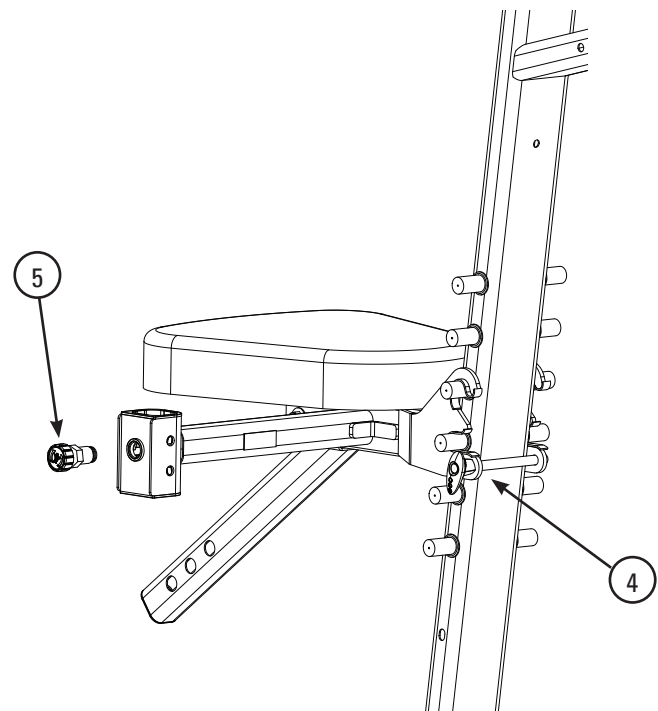

Figure 3b - Seat Assembly secured on Seat Support Rail
- 3-2 Secure the Seat Assembly with the Seat Locking Pin (4). See **Figure 3b**.
- 3-3 Install the Lock Knob (5) in the end of the Side Support bar. See **Figure 3b**.